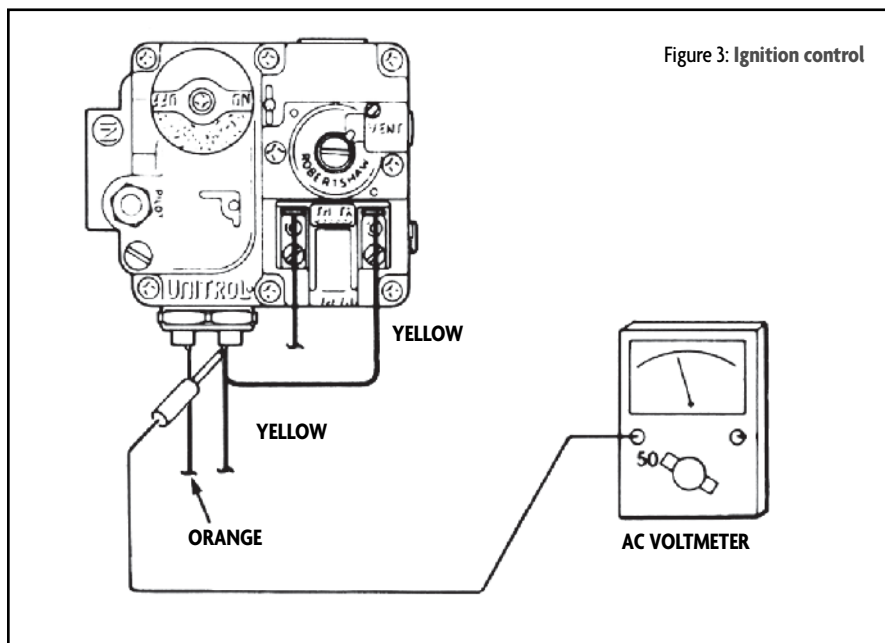

Figure 3: Ignition control
- Check the ignition control. When an IID heater won't fire, the ignition control is another suspect. Electrically, the ignition control is tested in the same fashion as the safety devices. First, verify that it's receiving 20- to 30 volts. Then make a visual inspection of the unit and test for a spark at the pilot-burner electrode. Use caution around the electrode: It has low amperage, but a high voltage! (see Figure 3).